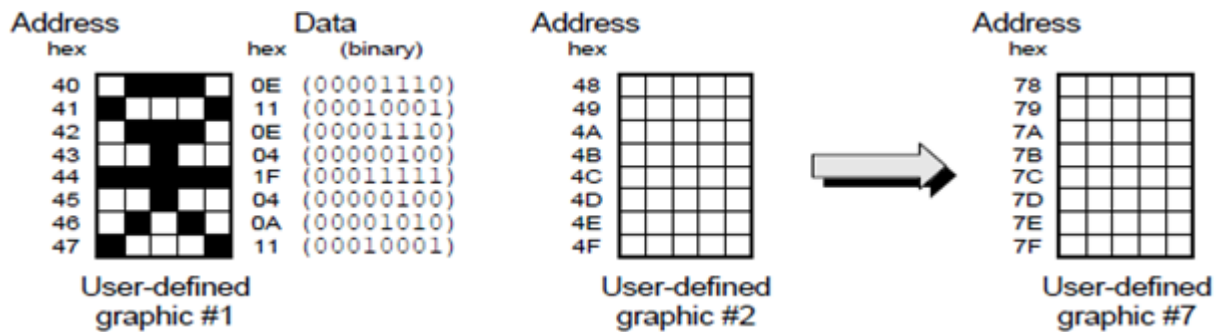

Figure 10: Storing the character in CG RAM.
For example, if we want to store the character we generated previously in CG(0), we issue the command 01000000 or 0x40 to the LCD using the **send_cmd** subroutine. However, if we want to store it in CG(1), we need to skip eight locations and issue the command 01001000 or 0x48. This is necessary as each character is actually eight bytes, so the next character in the CG RAM starts after eight bytes. Figure 10 illustrates this idea. Note how CG(2) starts at 0x48 and CG(7) starts at 0x78.